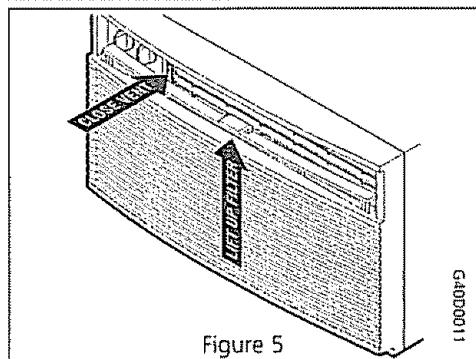

Figure 5
- For compact models, push the vent control handle to the CLOSED position. Grab the tab and lift the filter straight up and out (Figure 5) **Note:** For compact models without the visible filter tab, see "Filter Removal, Some Compact Models" on previous page.